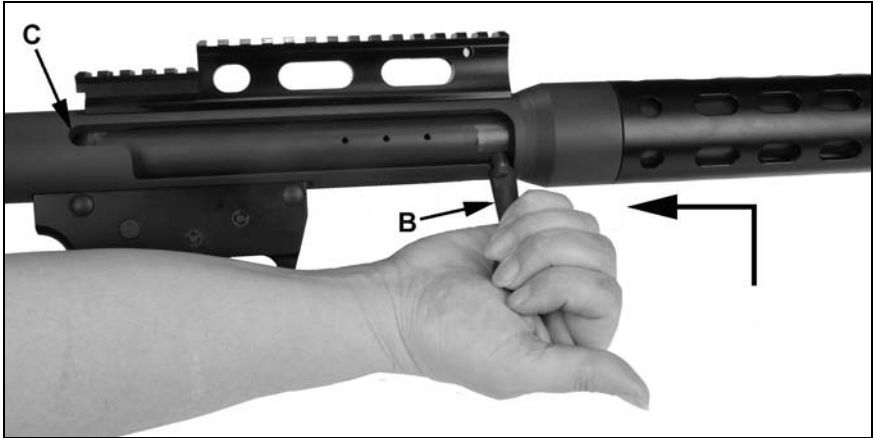

Figure 14
5. Lift up on bolt (B) and pull back into slot (C) in one smooth motion to eject spent round. See figure 14.